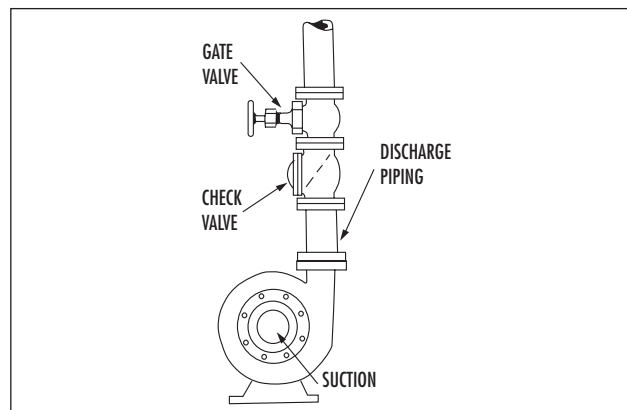

Figure 5. Gate Valve and Check Valve.
**DISCHARGE VALVES.** The discharge piping must include a check valve and an indicating isolation valve. The check valve should be located between the isolation valve and the pump. If an increaser (or reducer) is used in the discharge piping, the increaser (or reducer) should be installed between the pump nozzle and the check valve. The check valve protects against a reverse flow of the liquid if the driver fails. *Refer to Fig. 5.*